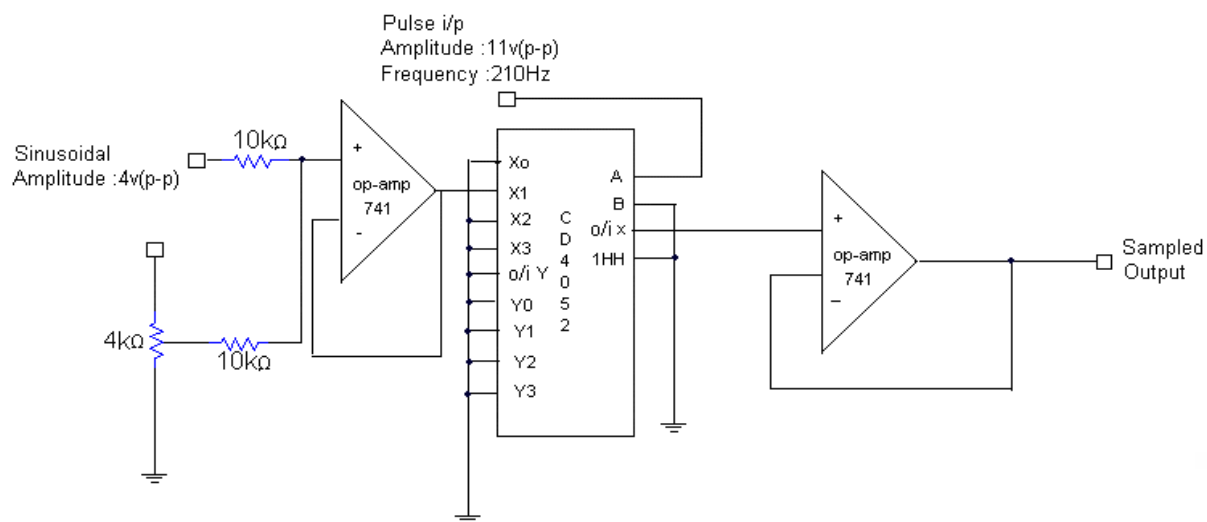

Fig: 1 Sampling Circuit
1. The circuit is connected as per the circuit diagram shown in the fig 1.